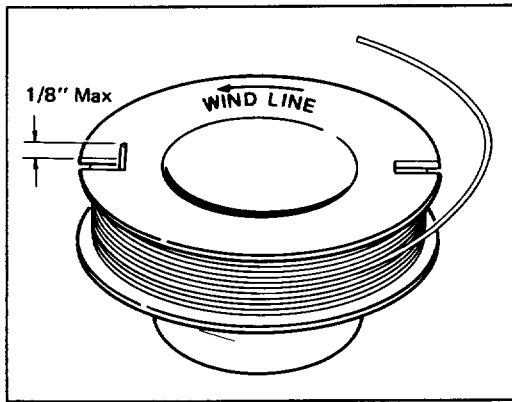

Figure 18
A. Hook one end of line into groove on spool, allowing no more than 1/8" of line to protrude. Wind line in direction of arrows on spool in level rows between spool flanges (Fig. 18).